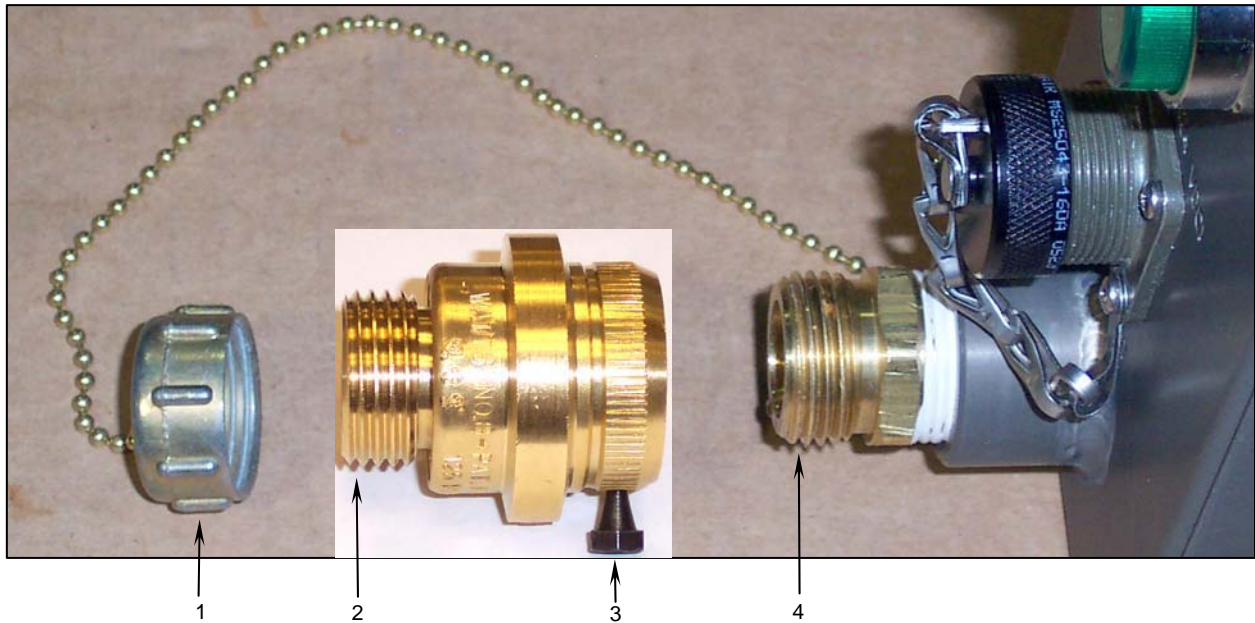

Figure 3. Removing the Sink Fill Pump Assembly Vacuum Breaker.
- a. Unscrew the water outlet cap (**Figure 3, Item 1**) from the old vacuum breaker (**Figure 3, Item 2**).
- b. Remove the set screw (**Figure 3, Item 3**) from the old vacuum breaker.
- c. Unscrew the old vacuum breaker (**Figure 3, Item 2**) from the straight adapter (**Figure 3, Item 4**).